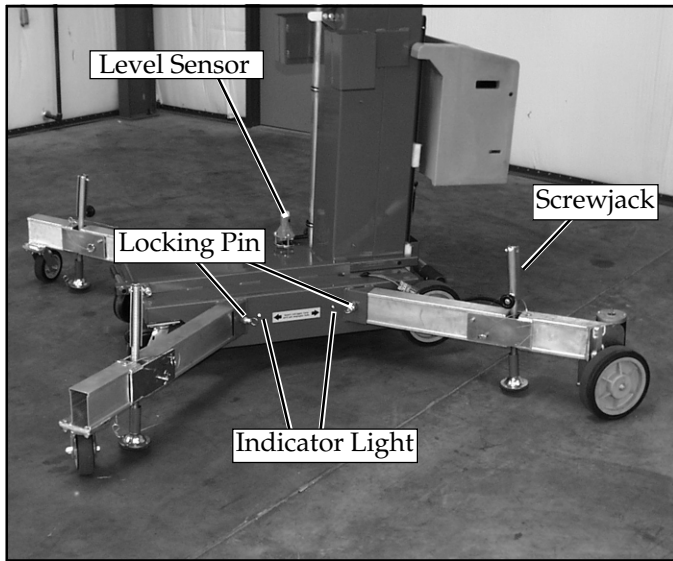

Figure 2-3: Installing outriggers
2. Insert into outrigger socket in base (Fig. 2-3).
4. Repeat the above steps for all other outriggers. Make sure all four (4) locking pins are engaged if using machine with screwjacks only.